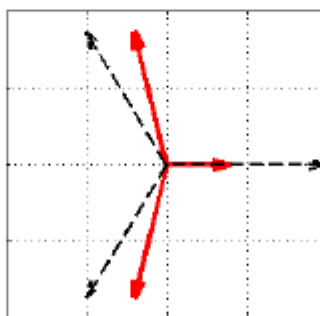

Figure A.5 — vectorial representation of an asymmetric two-phase fault
- 2) asymmetric two-phase fault (Table 3, Tests VD 6, 7, 8, 9, 10), see Figure A.5.